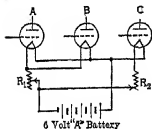

FIG. 62. Filament currents of tubes *A* and *B* are controlled by rheostat  $R_1$ ; that of tube *C* by  $R_2$ .
**Prob. 4-3.** Each of the vacuum tubes *A* and *B*, Fig. 62, requires 0.06 ampere at 3 volts and tube *C* requires 0.25 ampere at 5 volts. What are the resistances of the smallest rheostats that can be used to control the currents if a 6-volt "A" battery is used?